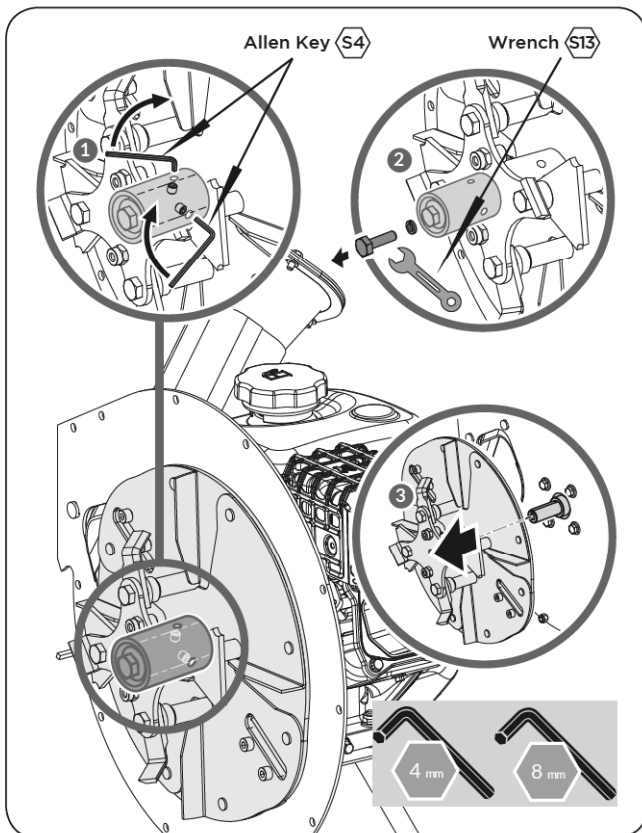

Figure 13
- Using Allen key S4 to remove the two screws on top of engine shaft bushing. (See Figure 13, illustration 1)
- Using Allen key S8 to remove the socket head cap screw fixing the engine shaft. (See Figure 13, illustration 2)